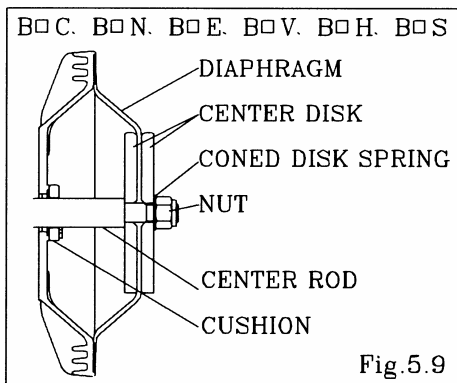

Fig.5.9
- Insert the cushion (except with the NDP-80). (cf. Fig.5.9)
- Draw the center disk to one side (exclude B□H, B□S type cf. Fig.5.9).